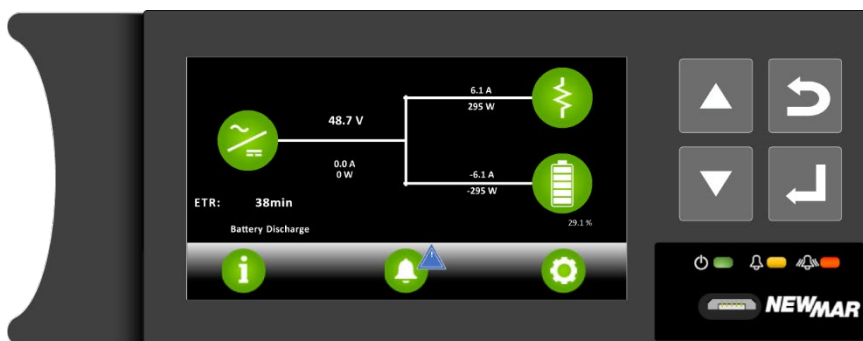

Figure 17: 1U EM4x-01 Front Panel micro-USB
1. Connect the communicating device to the micro-USB port on the front of the energy manager. See Figure 17.